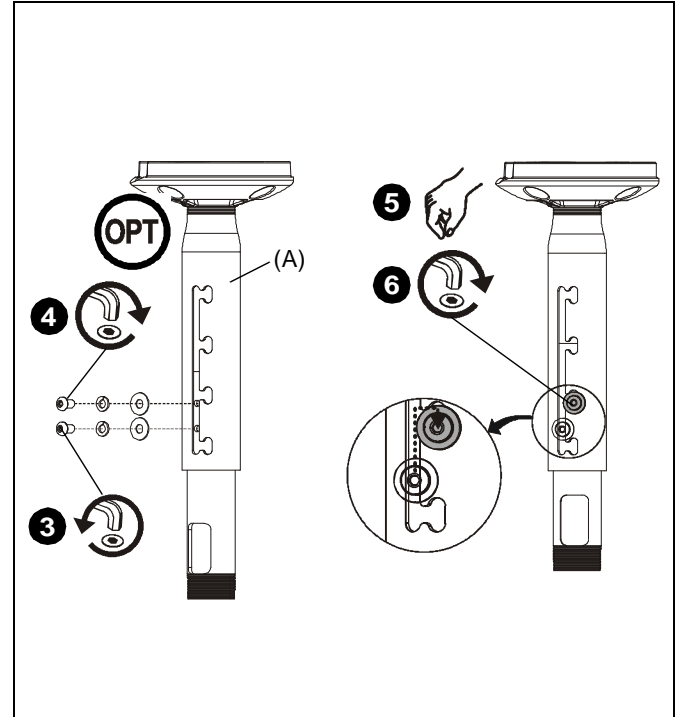

Figure 5
3. (Optional) Remove button head cap screw and supporting washers from lower adjustment hole if an additional 1" (25mm) adjustment increment is desired. (See Figure 5)
4. (Optional) Replace button head cap screw and supporting washers into upper adjustment hole to provide an additional 1" (25mm) adjustment increment. (See Figure 5)
5. Adjust column (A) to desired length, then rotate and lock into position. (See Figure 5)
6. Tighten adjustment screw using 3/16" hex key (B). (See Figure 5)